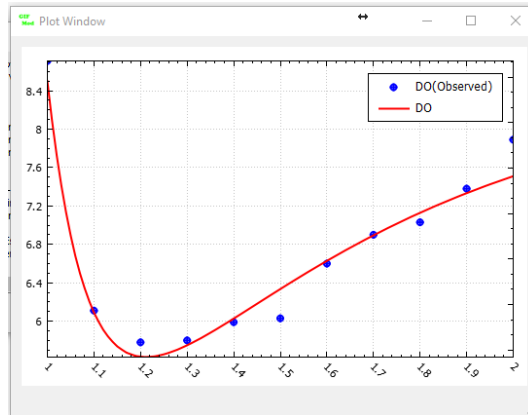

Figure 4: Modeled vs. observed plot
- **Modeled vs. Observed comparison:** In the **Project Explorer**, right-click on **Inverse Modeling**→**Observations**→*DO* and then click on **Plot Modeled Data**. The modeled vs. observed graph (Figure 4) should appear.